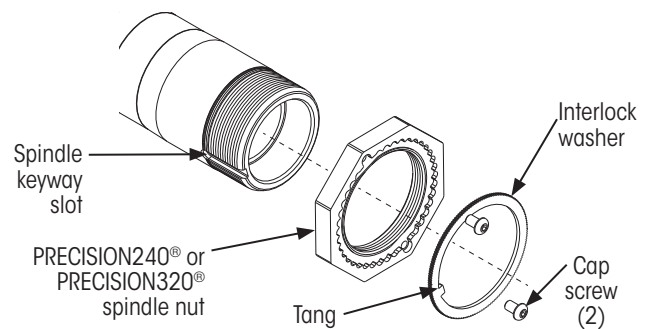
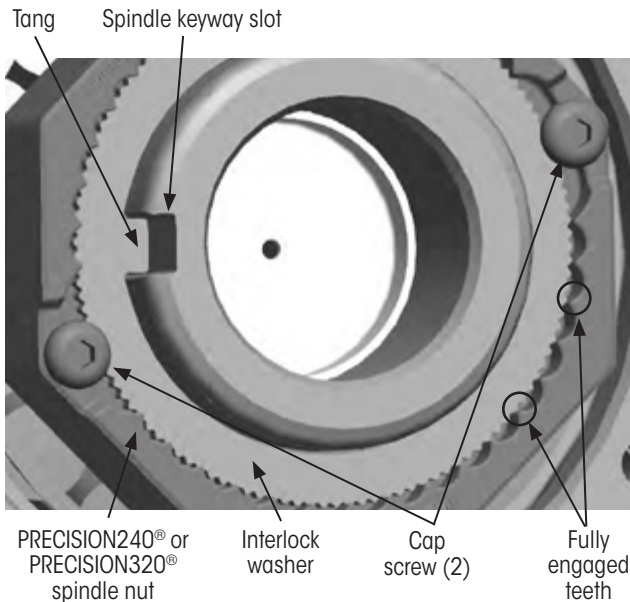

Figure 10: Precision spindle nut system components
Figure 12: Interlock washer and precision spindle nut fully engaged
1. **Install precision spindle nut** (Figure 10) onto the spindle, toothed side out, and **hand-tighten**.
9. **Install interlock washer** into the precision spindle nut with the tang aligned and inserted in the spindle keyway as shown in Figure 10 and Figure 12.
IMPORTANT: Teeth between the interlock washer and precision spindle nut must fully engaged as shown in Figure 12. **DO NOT ADJUST NUT TO ALIGN INTERLOCK WASHER**. Flip the washer over and reinstall.
10. **Install two button-head cap screws** (Figure 10) into the precision spindle nut until the heads of the screws just contact the face of the nut.
1. **Ensure** interlock washer is fully seated in PRECISION240® or PRECISION320® spindle nut (Figure 12).